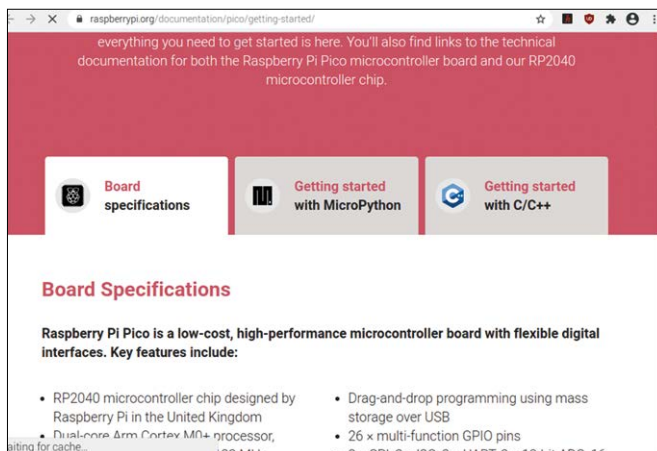

Figure 2.3: Displayed message.
- You should see the message **Welcome to your Raspberry Pi Pico** displayed in a web page (Figure 2.3).